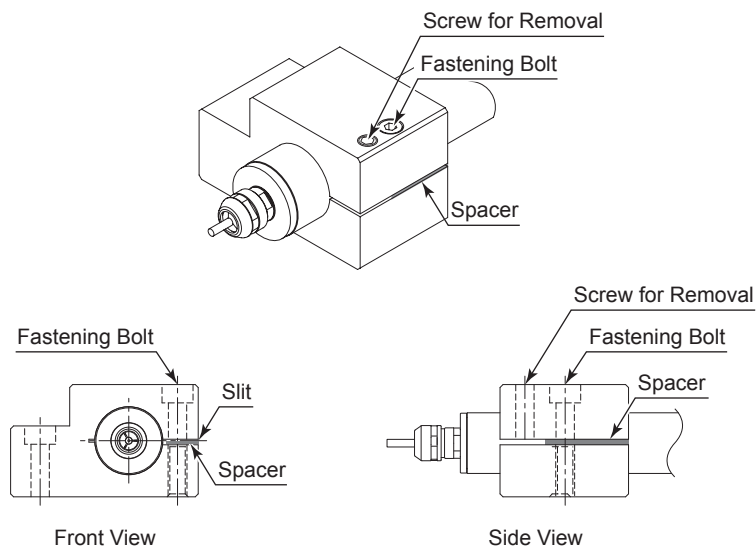

Fig. 28
- (1) The proper surface speed for general grindstones is 10 - 30m / s.
- (2) Do not exceed 13mm of overhang for mounted grindstones as shown in Fig. 28. If the overhang must exceed 13mm, reduce the Brushless Motor Spindle speed in accordance with Table. 4.
- (3) Dress the grindstone prior to use.
- (4) Do not use cutting tools with bent or broken shanks, cracks or excessive run-out.
- (5) For grinding, the maximum depth of cut should not exceed 0.01mm radially or axially. Reciprocate the tool several times after each pass to eliminate tool pressure.
- (6) Always operate cutting tools within the allowable recommended speed of the cutting tools. Use of a cutting tool outside of the allowable speed of the cutting tools could cause damage to the spindle and injury to the operator.
- (7) Keep the cutting tool shank and collet clean. If contaminants are left in the collet or collet nut, excessive run-out will cause damage to the cutting tool and or spindle.
- (8) Do not strike or disassemble the Brushless Motor Spindle.
- (9) Please set the cutting tools to minimize the overhang amount. 13mm is the maximum amount of overhang to maintain high accuracy and safety.